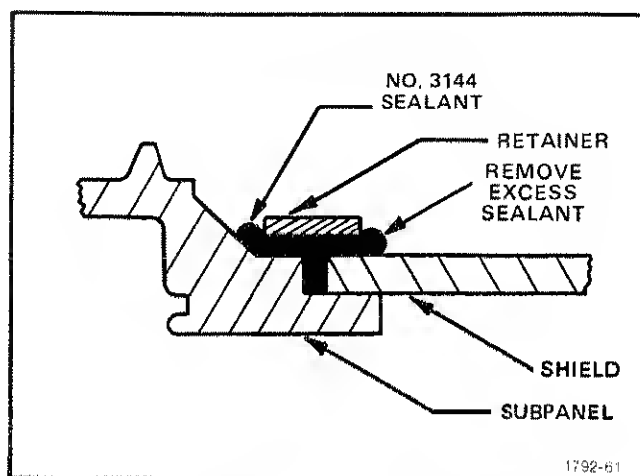

Fig. 5-7. Detail of Implosion shield sealing.
1. Pressing the retainer should cause some of the sealant to appear outside the retainer area, see Fig. 5-7. Failure of the sealant to appear at any point around the retainer is an indication of inadequate sealing.
2. When performing this step, assure that the shield makes flush contact with the subpanel, see Fig. 5-7.